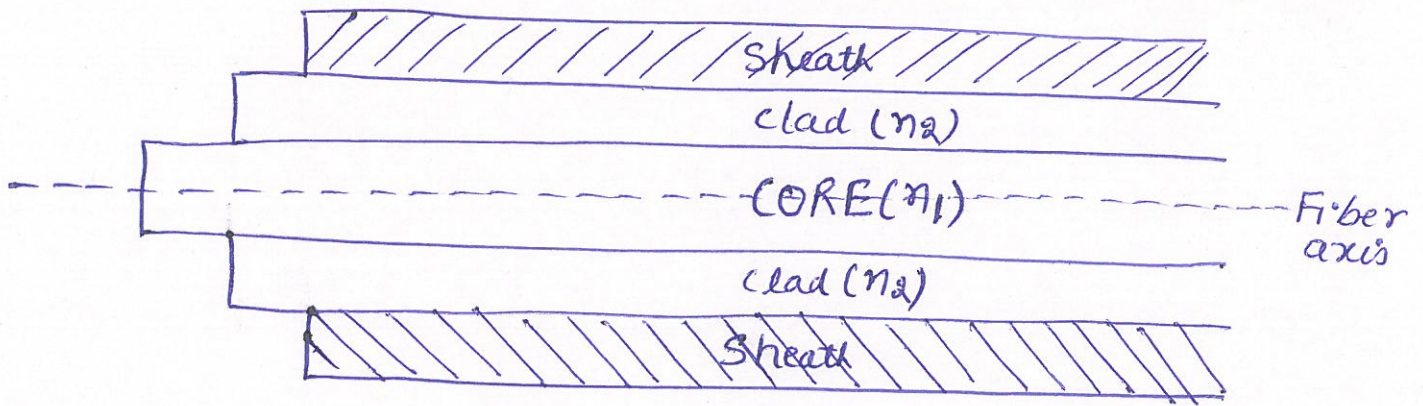
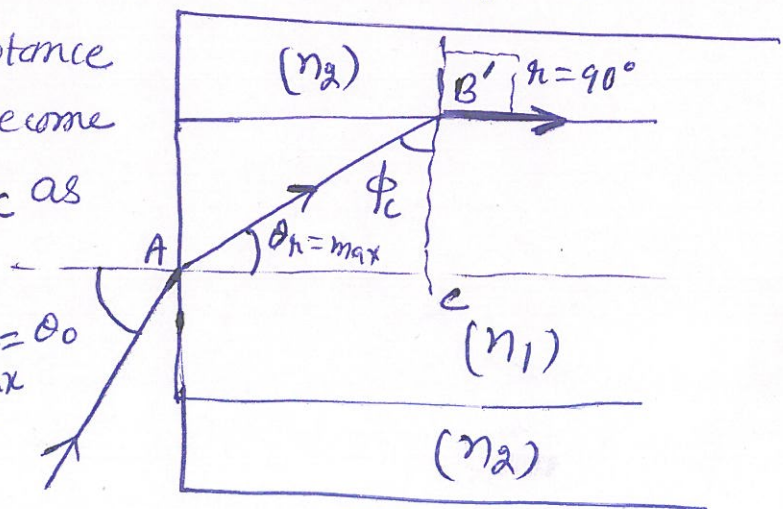

Fig. 1
Fig 2.
to another." The basic diagram of an optical fiber is shown in figure 1 above. It contains three co-axial cylindrical layers known as core, clad and sheath (or buffer jacket).
consider an arbitrary ray of light make angle  $\theta_i$  with axis of optical fiber, at input as shown in Fig 1. On entering the
Since ray of light shown in fig 1. arbitrary, therefore by increasing its value, we may reach maximum value of  $\theta_i$  denoted by symbol  $\theta_0$ , called acceptance angle, for which  $\phi$  will become minimum, that is  $\phi_c$  as shown in fig. 2.
In Fig. 1. Shown here, three rays of light are entering in optical fiber such that all are parallel to each other. All these three rays travel along ~~parallel~~ identical paths,
In the previous article, fiber shown in fig. 1 is a SMF, because all three rays of light are entering in fiber at same angle with respect to axis. In general number of rays in SMF can be infinitely large, but all of these will enter in fiber as a beam of parallel rays.
In fig. 2. of previous article, two modes of light are propagating because there are two distinct angles, at which rays of light are entering in the fiber. Thus fiber shown in this figure is MMF. Note that in MMF, the total number of modes can be very large instead of just two as shown in fig. 2.
total number of distinct angles made by rays of light with axis at the input of fiber. It is also clear from fig. 1 & fig 2. of previous article that chances of interference between light rays (waves actually) during propagation are very ~~big~~ large in MMF. During interference, the information being carried out by these light waves may be lost or may get distorted. Larger is the distance travelled in fiber, more will be chances of loss of ~~info~~ information due to interference.
Figure 1. Shown below gives variation of refractive index of fiber as a function of distance ( $r$ ) from the axis of fiber. Such a graph is called index profile of fiber.
But due to the fact that ( $n_1 > n_2$ , slightly), the shape of index profile appear to be similar to step of a ladder. Thus Fig 1.
6. Since speed of all light rays is same (because of single frequency of carrier) and path length of rays is different for different angles/paths, therefore different rays of light take different time (∵  $\text{time} = \frac{\text{distance}}{\text{speed}}$  or  $\text{time} \propto \text{distance}$  as speed = constant) to come out of fiber, although all these rays have entered in fiber at the same time. Since rays are carrying identical information (for all rays in figure given on page 13, we have information of letter A, followed by B and then C), therefore at the output all information packets belonging to a unique information will not be received at single instant of time, rather it will spread on small time interval (denoted by  $T_{\text{int}}$  or  $\Delta t_{\text{int}}$ ), which is called intermodal dispersion delay or transition time dispersion delay (for example according to fig 2 on page 13 of notes, first ray to reach output will be (0), followed by rays (1) & (2) and information packet of A will be received when ray (0) reaches at output at time  $t_0 = 0$ , and information of A again reach at time  $t_1$  when ray 2 reaches output, followed by another